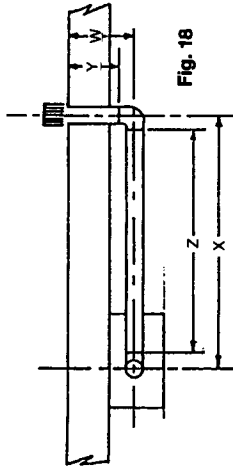

Fig. 18
- 5.5.23** Ensure when siting the flue hole position that the combined distances (Y&Z on fig 18) between the flue elbow on the boiler to the extra bend and from the face of the outside wall to the extra bend do not total more than 3.75 metres.
- 5.5.24** Measure carefully the distance between the centre of the flue bend on the boiler to the centre of the hole through the wall (dimension X fig. 18).
- 5.5.31** Ensure that the flue pipe runs parallel to the wall then carefully measure the distance from the outside face of the wall to the centre of the extra bend (dimension W fig. 18).